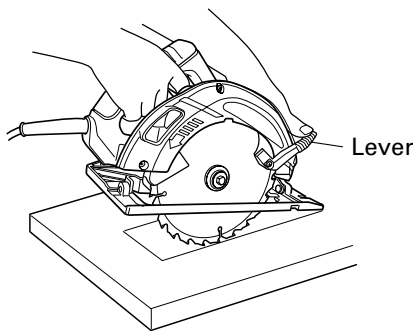

Fig. 16
1. Mark the desired cutting area clearly with lines all side. (See Fig. 16)
3. Push the lever all the way back so the blade is exposed as shown in Fig. 16.